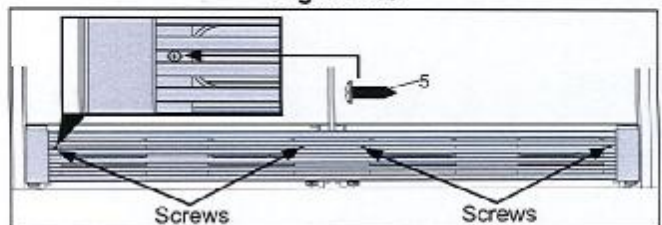

Figure 20.
(Dual Unit) Attach the kick plate to the cabinet with four (4) screws. (See Figure 20)